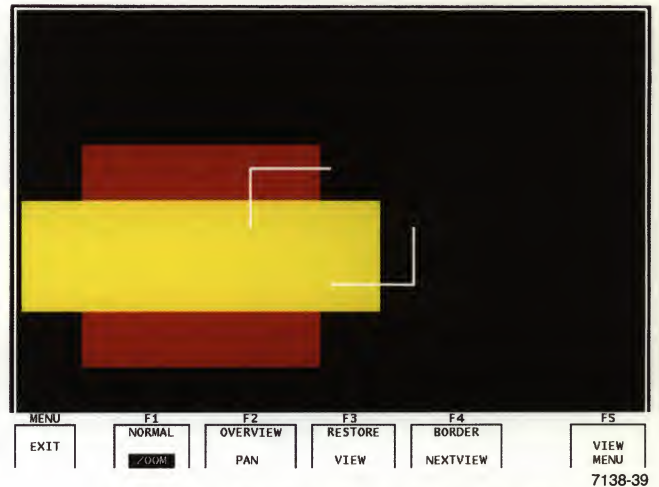

Figure 6-3. Display After Updating the View.
4. Press F3 to update the view. The 4211 redraws the image that was in the framing box, expanding it to fill the entire graphics area as in Figure 6-3.